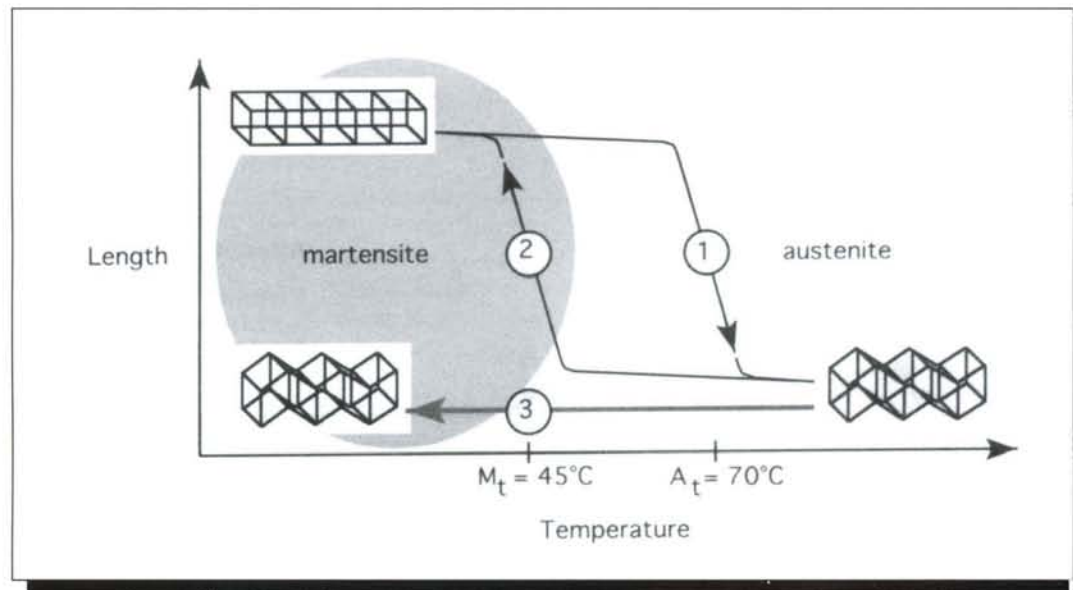

Figure 1. The Operating Cycle of nitinol:
its length when heated, and can then be easily stretched out as it cools. Like the filament in a light bulb, nitinol reacts quickly to heating and cooling. This contraction of nitinol wires when heated is larger by a hundred-fold and opposite to ordinary thermal expansion. It exerts a tremendous contractive force, given its small size. The underlying technology that causes the effect is discussed below and depicted in Figure 1. The main point is that the contraction is silent, smooth and powerful, and occurs through an internal solid state restructuring of the material.
The function of the nitinol wire is based on the shape-memory phenomenon that occurs in certain alloys in the nickel-titanium family. When nickel and titanium atoms are present in about a 1/1 ratio, the material at normal temperatures is in a relaxed or expanded crystalline state referred to as the 'martensitic state.' When the wire is heated above a certain temperature the material becomes rigid and contracts as it assumes what is referred to as the 'austenitic state' ① in Figure 1. This temperature, A_t , is the austenitic transformation temperature. In this state nitinol exhibits high strength and is not easily deformed. As long as the temperature of the wire is kept slightly above A_t , the wire will remain contracted. When the heat is removed and the temperature falls below a certain temperature it returns to the 'martensitic state' crystal form. This temperature, M_t , is the martensitic transformation temperature. The low temperature martensitic crystal form of the alloy can easily undergo reversible deformation (i.e., can be stretched to its original cooled dimension), ② in Figure 1, under an opposing or 'bias force.'
The contraction of nitinol wire is measured as a percentage of the length of the wire. The stroke is determined, in part, by the level of bias force used to reset the wire, or to stretch it in its low temperature phase. If no bias force is applied as the temperature falls below M_t , then the wire will remain short as it returns to the martensitic state ③ in Figure 1. In most applications,
the bias force is exerted constantly on the wire, and on each cycle as the wire cools, it is elongated by this bias force. If no force is exerted as the wire cools, very little deformation or stretch occurs during the cooling phase, and correspondingly very little contraction occurs upon reheating. Up to a point, the higher the load, the longer the stroke. The strength of the wire, its pulling force and the bias force needed to re-stretch the wire, are functions of the wire's cross sectional area. By the transformation process described in Figure 1, nitinol wire can change its length by as much as 10 percent.